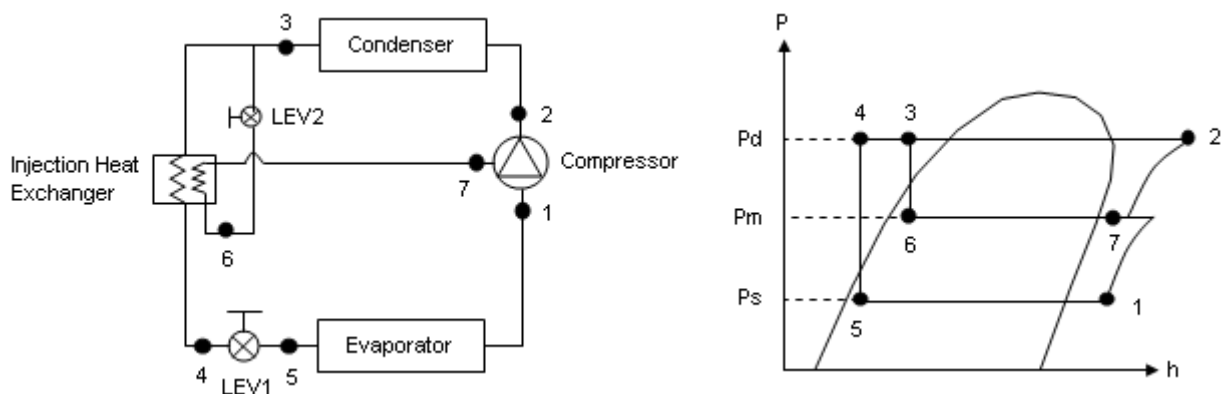

Figure 1: Schematic of internal heat exchanger vapor-injection cycle
Heat exchanger capacity size can be calculated by equation (1). It uses 3 value which are Pm (pressure at state 7, figure 1) and Injection flow which located in compressor performance data. The last value is enthalpy between state 6 and state 7 (figure 1). Consequently, the Injection Heat Exchanger capacity value air calculated by using the following equation.
The best flowing direction for subcooling is counter flow. From figure 1, the refrigerant from state 3 to state 4 counter flows with the other one from state 6 to state 7.